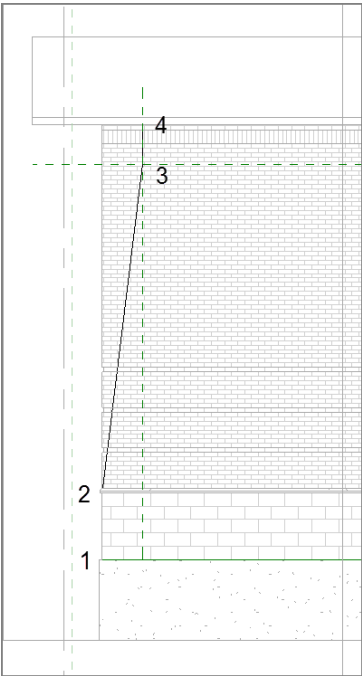

FIGURE 16.43: Drawing the face of the shape
4. Verify that Draw Line is the draw option. Draw a line from point 1 to point 2, as shown in Figure 16.43. (This line is from the bottom of the CMU wall to the bottom of the concrete ledge.)
5. Draw a line from point 2 to point 3 (see Figure 16.43).
6. Draw a line from point 3 to point 4 (see Figure 16.43).